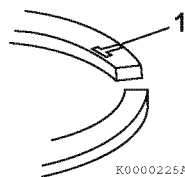

Figure 6-135
- Reinstall the top and second piston rings with the stamped “makers mark” (1, **Figure 6-135**) facing the top of the piston. The “makers mark” may vary in appearance but will always be located on the top surface of the piston ring adjacent to the piston ring gap. The oil ring and oil ring expander can be installed either side up.